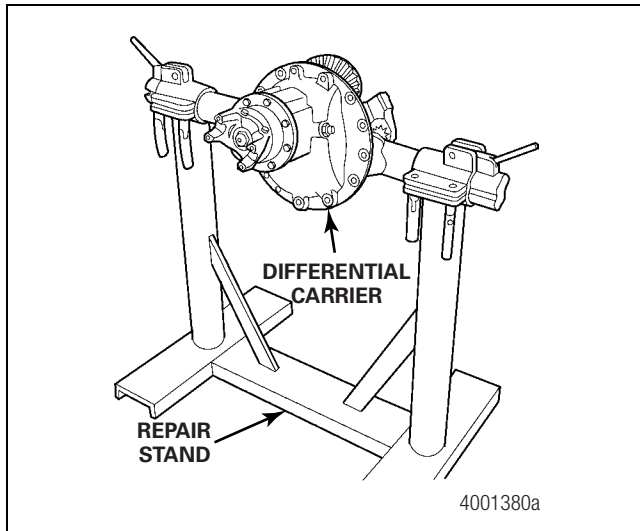

Figure 3.6
15. Use a lifting tool to lift the differential carrier by the input yoke or the flange and place the assembly into a carrier repair stand. Figure 3.6.